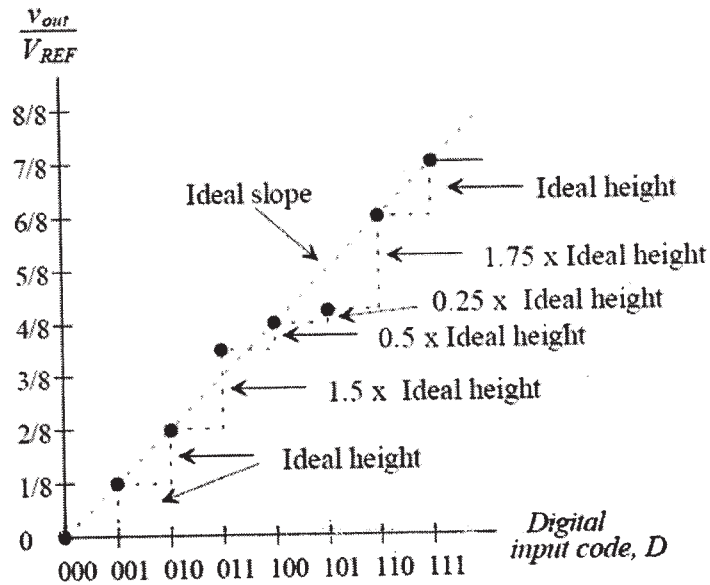

Fig.3
- Q5)** a) Determine the DNL for 3-bit nonideal DAC whose transfer curve is shown in Fig. 3. Assume that $V_{\text{REF}} = 5\text{ V}$. Also draw the quantization error curve and DNL curve. [4]